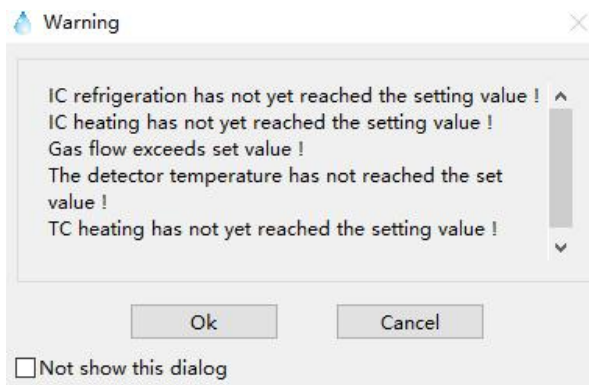

Fig 4.63
Step 6 Manually place the sample on the base of the sample bottle and select the row where the sample is located, click  to start the measurement. The system will give a prompt (Fig. 4.63) if the current testing conditions do not meet the requirements. Click 'Cancel', wait the conditions to